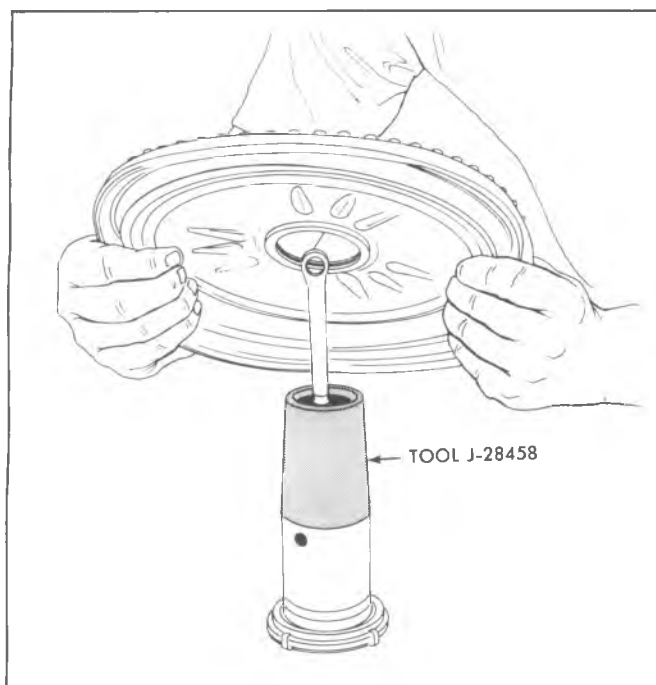

Fig. 5-5A--Installing Secondary Diaphragm and Support Plate Assembly
15. Place the power piston on bench with the push rod up. Install assembly cone J-28458 over push rod end of piston (fig. 5-5A).
17. With assembly Tool J-28458 mounted on the power piston, place the secondary diaphragm and support plate assembly over the power piston (see Figure 5-5A) and push down until it bottoms on power piston.